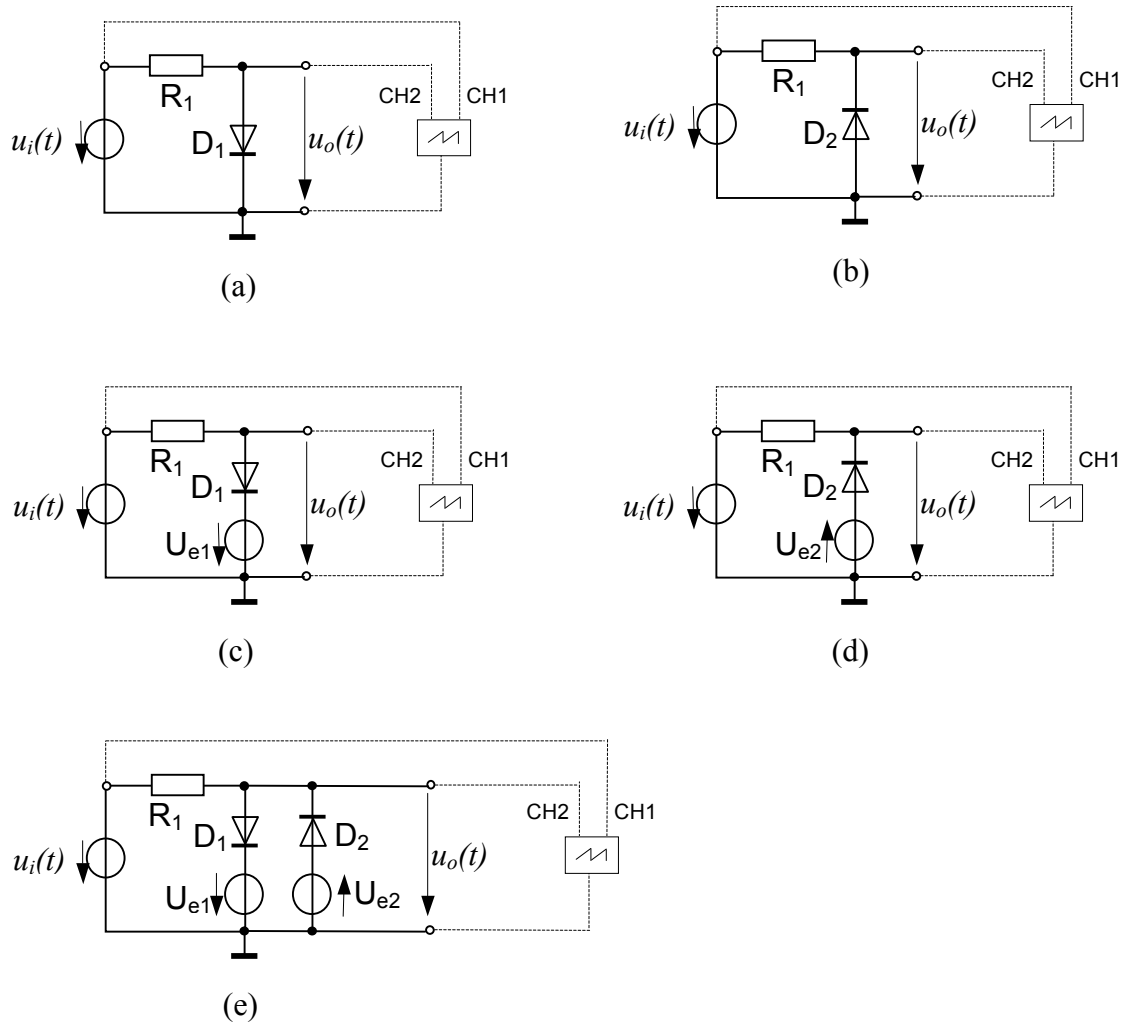

Fig. 2.3
4. connect the signal generator and the oscilloscope as shown in Fig. 2.3-a.;
2. connect the signal generator and the oscilloscope as shown in Fig. 2.3-b;